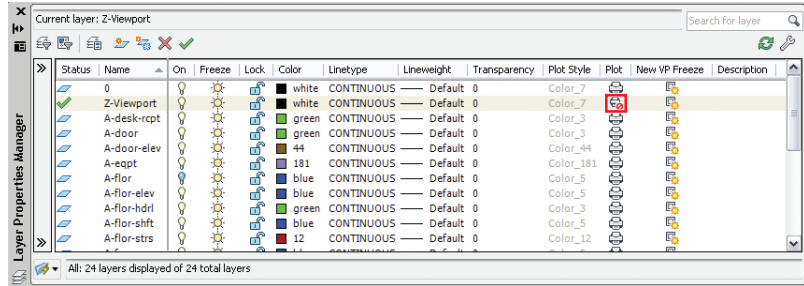

FIGURE 13.9 Creating a nonplotting viewport layer and setting it as current
3.  Click the New Layer button in the Layer Properties Manager that appears. Type **Z-Viewport**, and press Enter. With the Z-Viewport line still highlighted, press Alt+C to make the new layer current. Click the printer icon in the Z-Viewport layer's Plot column to make this layer nonplotting (see Figure 13.9). Close the Layer Properties Manager.